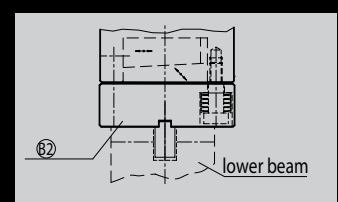

Fig. 5.3
- Mounting plate B3 for bolting to the lower beam according to the existing hole pattern. (Fig. 5.3).